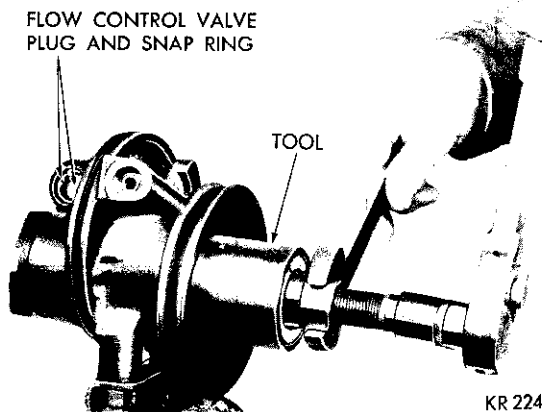

Fig. 4—Removing Pump Pulley
(1) Clean the exterior of the pump before disassembly.
(2) Remove the filler cap and drain the reservoir.
(3) Remove the brackets, reservoir screws, gasket and "O" ring.
(4) Using spacer washers between the bracket and the pump, reinstall the pump bracket for use as a holding fixture. Clamp the bracket in a vise (Fig. 4).
(5) Remove the pulley with Tool C-3615 or C-3934 as follows:
(1) Remove the pump and bracket from the vehicle.
(2) Remove the bracket and reservoir from the pump.
(3) Remove the pump pulley (Fig. 4).